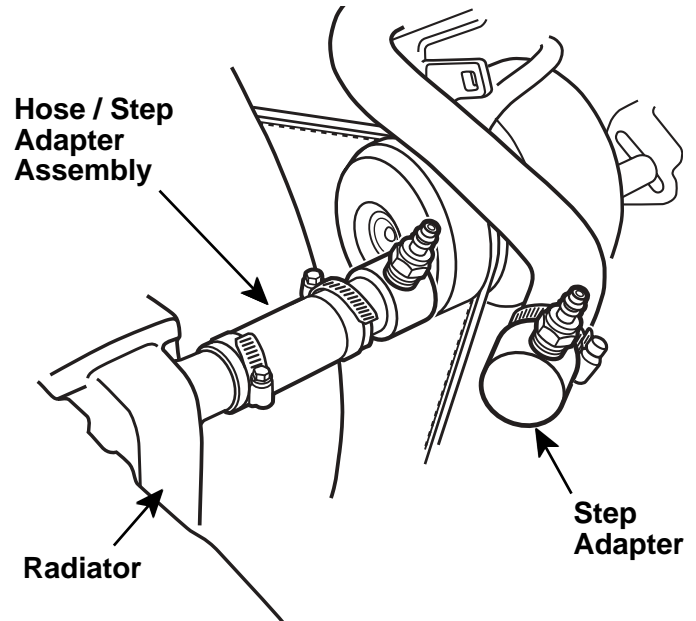

Figure 7
2. Insert a step adapter into the radiator hose. See Figure 7.